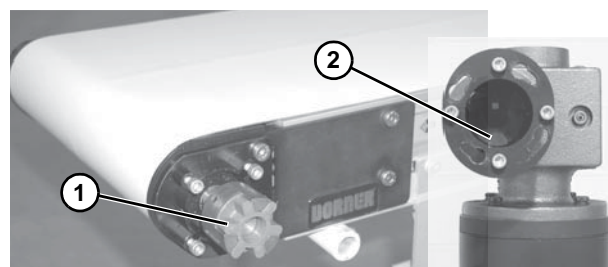

Figure 5
3. Rotate conveyor belt and attached conveyor coupling (**Figure 5**, item 1) to align with gearmotor coupling (**Figure 5**, item 2).